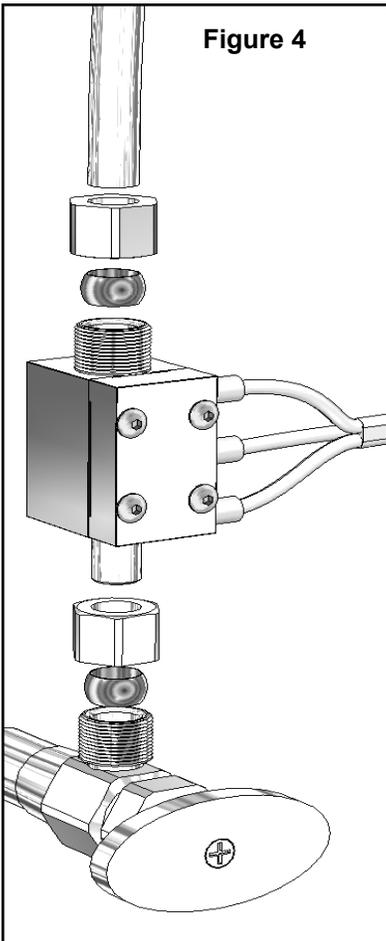

Figure 4
**STEP #3** - Prior to installing the valve blocks, open the shut-off valves momentarily to flush out any debris in the water lines. Large pieces of water borne debris will be trapped by the filter/screen in the valve blocks and may reduce water flow or cause noisy operation. Place the valve block into position as in Figure 4. Finger tighten the compression nuts until both valve blocks are in position. Be sure the plastic control tubing and fittings are not damaged in any manner.